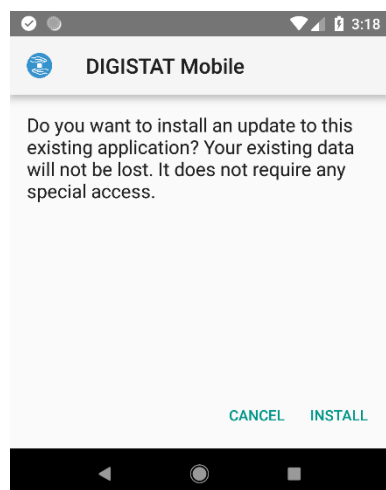

Fig 202
If all permissions requested during the first installation of Digistat Mobile application were granted, the following screen will be shown (Fig 202):
- Press the button **“INSTALL”** in Fig 202 to complete the updates installation process or the button **“CANCEL”** in Fig 202 to cancel the updates installation process.